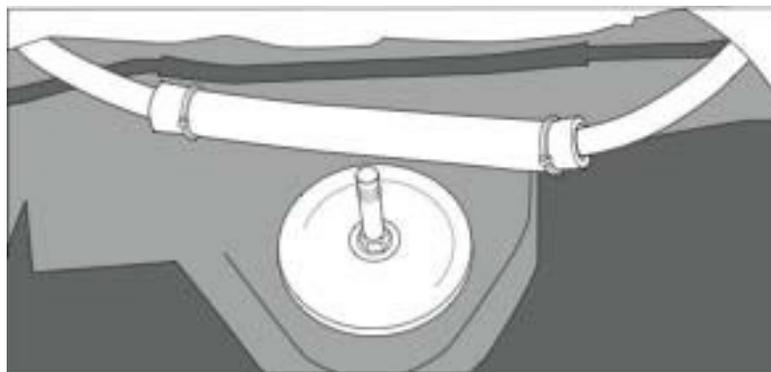

Figure 1: Protecting Hose Assembly
- To protect the 1/4" hose from abrasion, slit and wrap a 1/2" hose over each 1/4" hose where it comes close to moving or vibrating parts (Fig. 1). Also, to help the 1/4" hose hold its shape and prevent kinking, add the 1/2" hose to the parts of the hose that bends.